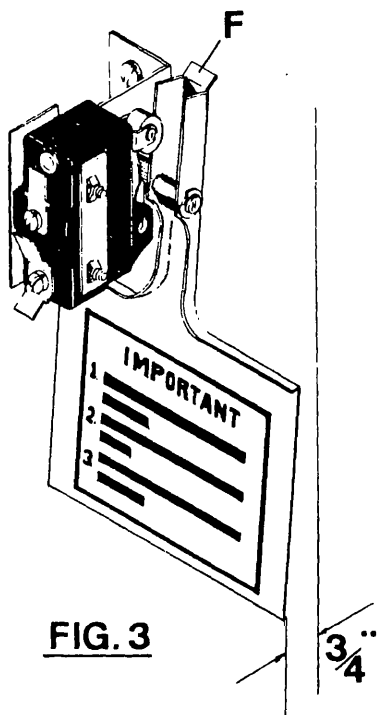

FIG. 1
2. Lay air switch assembly on flat surface and stand up on small end of switch mounting bracket. Adjust air blade by bending at "A" (Fig. 1) so that air blade lays flat and surface "B" is parallel to the flat surface.